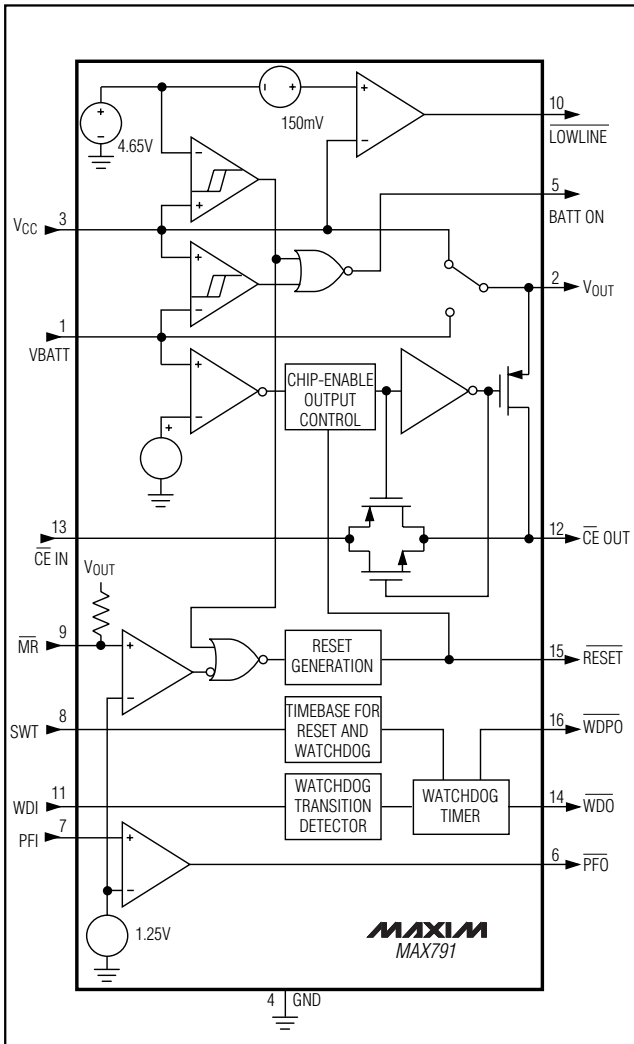

Figure 1. MAX791 Block Diagram
Many µP-based products require manual-reset capability, allowing the operator or test technician to initiate a reset. The Manual Reset Input (MR) can be connected directly to a switch, without an external pull-up resistor or debouncing network. It connects to a 1.25V comparator, and has a pull-up to VOUT as shown in Figure 1. The propagation delay from asserting MR to RESET asserted is 4µs typ. Pulsing MR low for a minimum of 15µs resets all the internal counters, sets the Watchdog Output (WDO) and Watchdog-Pulse Output (WDPO)